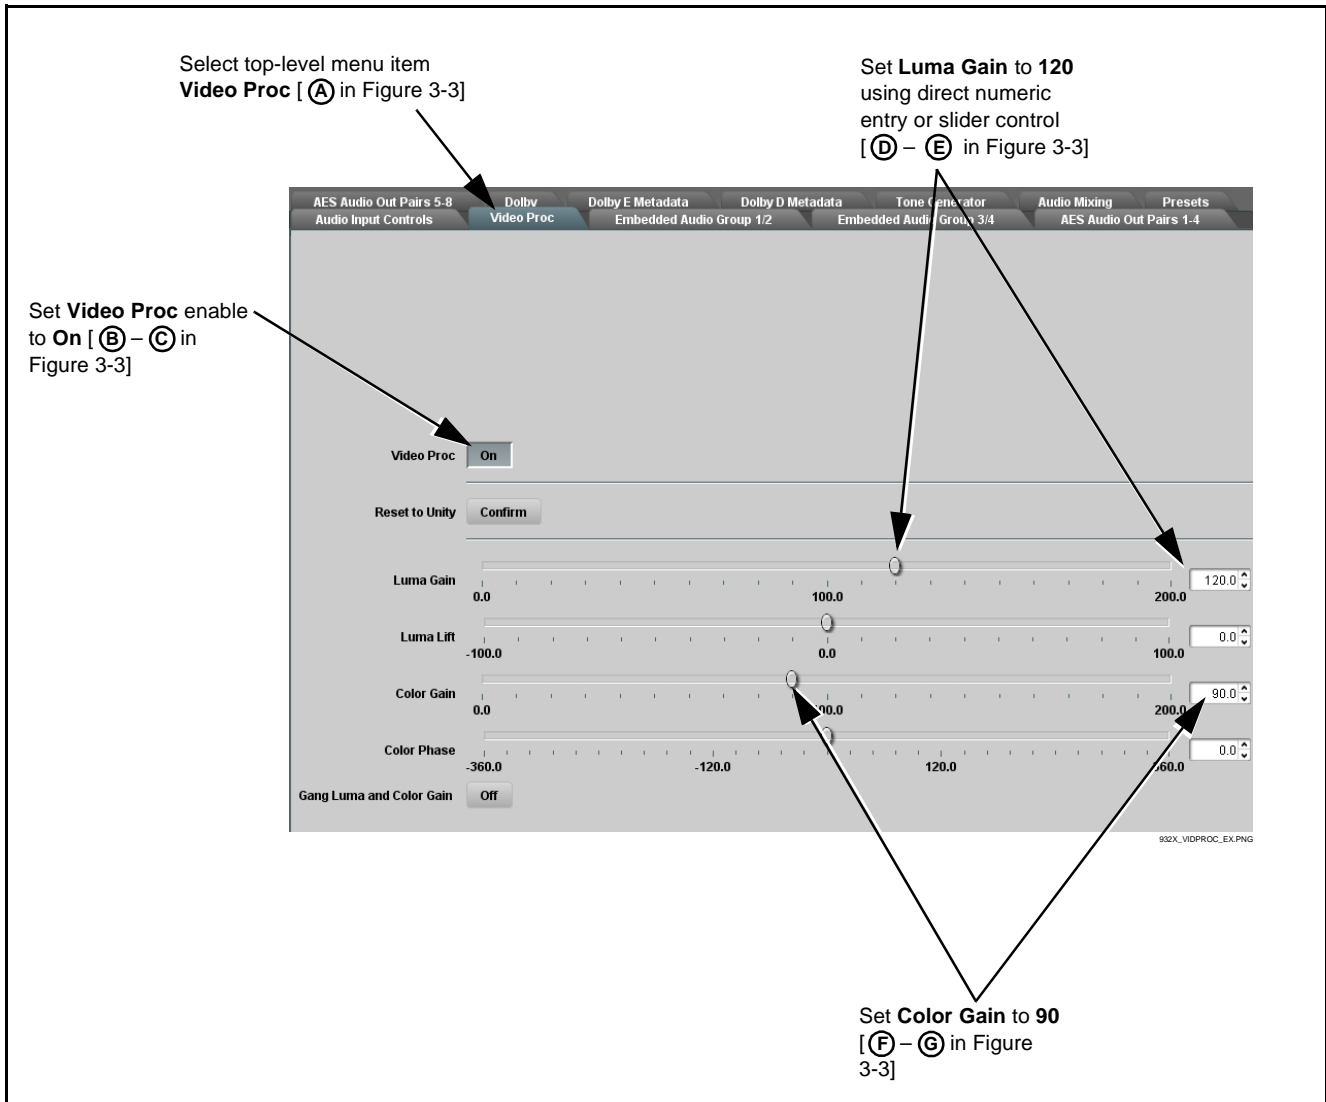

Figure 3-5 DashBoard™ Setup of Example Video Proc Function
(See Figure 3-5.) The card function submenus are organized in DashBoard™ using tabs (for example, “Video Proc” in Figure 3-5). When a tab is selected, each parametric control or selection list item associated with the function is displayed. Scalar (numeric) parametric values can then be adjusted as desired using the GUI slider controls. Items in a list can then be selected using GUI drop-down lists. (In this manner, the setting effected using controls and selection lists displayed in DashBoard™ are comparable to the submenu items accessed and committed using the card edge controls.)
Figure 3-5 shows the same setup described in Figure 3-3 as performed using DashBoard™. Note how this setup is greatly simplified using DashBoard™ with most of the discrete tasks ((A) through (G) in Figure 3-3) performed with the card edge controls now rolled into simple actions using DashBoard™.